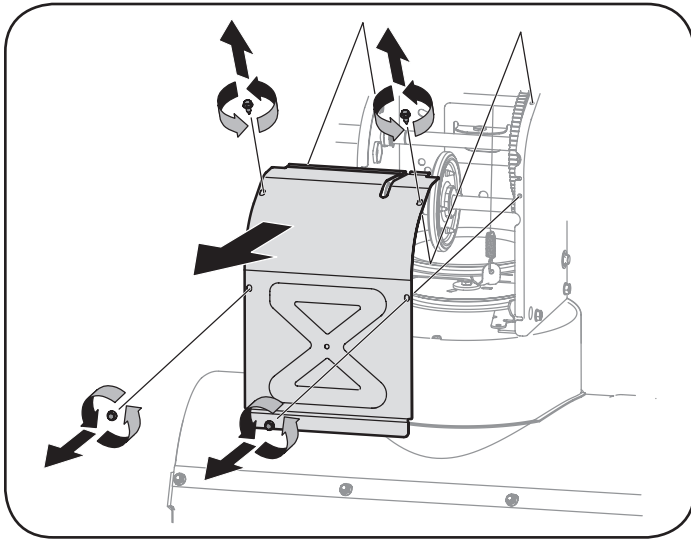

Figure 69
5. Remove the frame cover from the underside of the snow thrower by removing four self-tapping screws which secure it. See Figure 69.